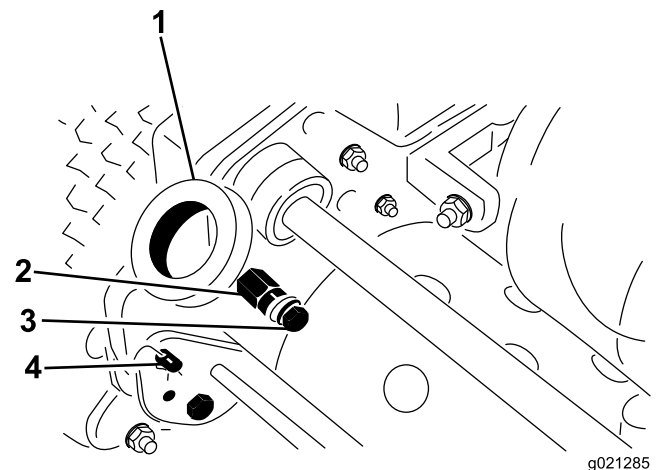

Figure 2
1. Remove the bolts, locknuts and washers securing the bottom of the handle arms to each side of the mower (Figure 2).
2. Remove the hairpin cotters and ring pins securing the handle arms to the rear of the frame (Figure 2).
3. Insert the handle ends through the holes in the handle arms and align the holes with the mounting pins (Figure 2).
1. Remove the hairpin cottes from the ring pins on each side of the mower (Figure 2).
2. While supporting the handle, remove the ring pins from each side and raise or lower the handle to the desired operating position (Figure 2).